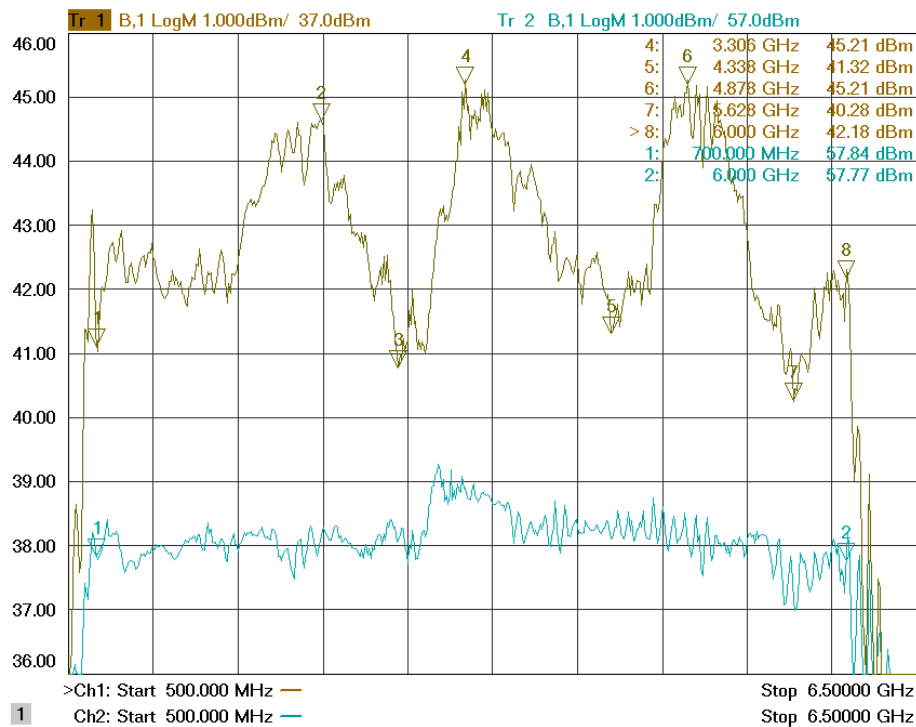

Figure 4-1. Typical Response at 0 dBm Input and -20 dBm Input
1. The Model 500SIG6A’s typical gain response at 0 dBm input and -20 dBm input is shown in Figures 4-1. The actual gain may vary considerably from that shown in Figure 4-1 but should be ≥ 57.0 dBm (0 dBm Input). should be ≥ 60 (-20 dBm Input) dBm. *NOTE: If the overall gain is low, the amplifier chain can be separated at the input of A3 Two-Way Splitter.*